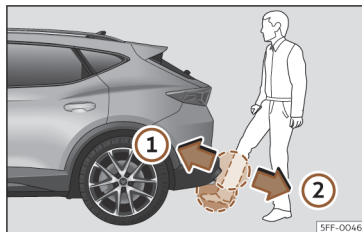

Fig. 78 Rear lid with sensor-controlled opening (Easy Open).
- With a brisk movement, bring your foot and lower leg as close as you can to the bumper. The lower part of the leg needs to be close to the upper sensor area and your foot to the lower sensor area >>> **Fig. 78 ①**.
- Quickly remove your foot and lower leg from the sensor areas >>> **Fig. 78 ②**. The rear lid will open automatically.